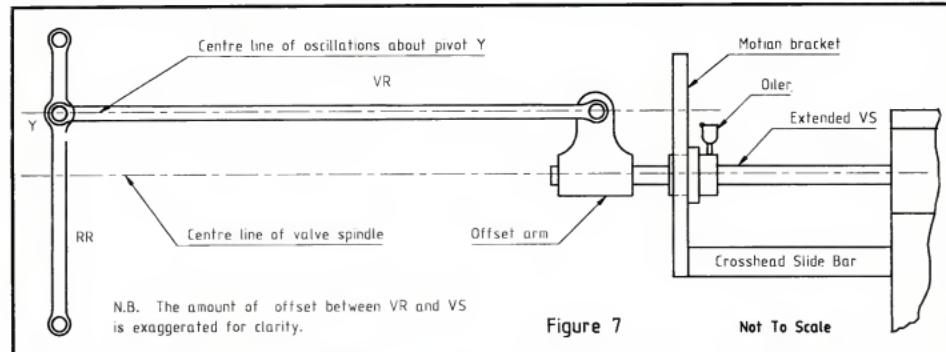

Figure 7
elongation when in full forward and full reverse. Ideally the horizontal centre line of oscillations about point Y should be in line with the centre line of the valve spindle (VS). In practice a small amount of offset between the two centre lines can be tolerated without undue effect on the valve events. However, should the offset be too great the solution is simple. Extend VS rearward so it slides back and forth in a bush attached to the motion plate. Determine the amount of offset between the two centre lines and make an arm of equal dimensions to the offset. Attach the arm to the extended valve spindle and connect the valve rod to the top of the arm (Figure 7). This restores both the horizontal centre line of oscillations about point Y and the centre line of VS to a parallel situation which will in turn correct valve travel errors. Also, it is better if RSM¹ is as long as practical.